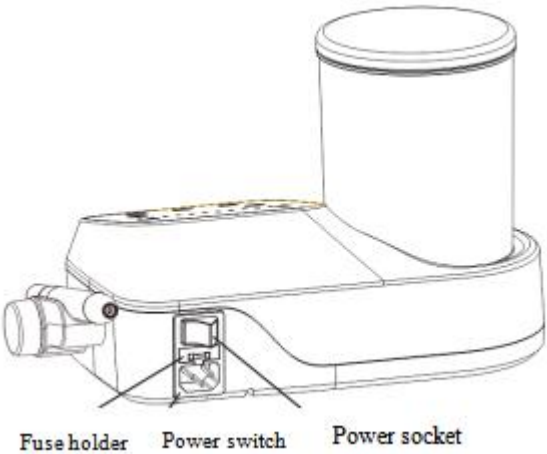

Figure 2 Rear Schematic Diagram
- (6) Set the power switch of the main unit to OFF state, then connect the output terminal of power supply cord to the main unit, and connect the input terminal of power supply cord to mains electricity (see Figure 2).
- (7) Turn on the power switch, the indicator light of key "P" and the first 3 power indicators will light up.
- (8) The operator shall select the operation mode of "G" and "P" according to the series of ultrasonic scaler tips. Please refer to the attached Table for the details of power used by the ultrasonic scaler tips.
- (9) When the product is working normally, the frequency is fast; When water spray from the tip normally, gently contact and reciprocate at a certain speed, so that the dental calculus can be removed, and there is no obvious feeling of fever on the surface of ultrasonic scaler tips; Do not use excessive force locally or stay too long times when scaling teeth.
- (10) Vibration strength: adjust the magnitude of vibration strength according to requirements; Generally, it is recommended that adjust to moderate vibration strength, or adjust it at any time in the clinical process according to the sensitivity of the patients and the hardness of dental calculus.
- (11) Water volume adjustment: step on the foot switch to generate vibration at the ultrasonic scaler tips, rotate the water volume adjusting knob to form mist, so as to cool the ultrasonic scaler tips and clean the tooth surface.
- (12) Generally, the handpiece is held by the pen holding gesture.
- (13) During clinical scaling and treatment, do not make the top of the ultrasonic scaler tips come into vertical contact with the tooth, and do not apply heavy pressure, so as to avoid damaging the tooth and the ultrasonic scaler tips.
- (14) After clinical scaling and treatment, the handpiece shall be kept working for 30 seconds, the water shall be supplied during this process to clean the handpiece and ultrasonic scaler tips.
- (15) Disassemble the ultrasonic scaler tips and the handpiece for reprocessing so as to avoid cross-infection.